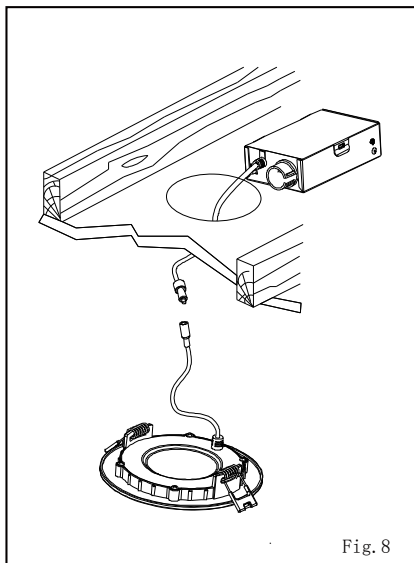

Fig. 8
9. Connect the low voltage cable to the fixture - the arrows on the male and female parts of the connector between the driver and the fixture should match. (Fig.8)